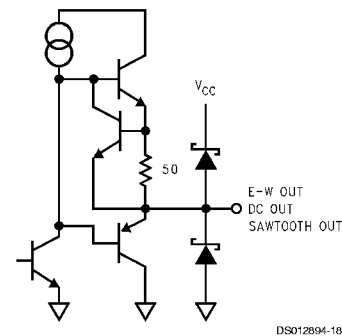

FIGURE 12.
**Pin 11. E-W OUT:** The output waveform at this pin consists of the sum of the linear sawtooth, 2nd order parabolic and 4th order parabolic waveform components. The center position of the output waveform tracks the output voltage at pin 13 (DC OUT). See *Figure 12* for the output schematic.
**Pin 13. DC OUT:** This pin outputs a variable DC voltage from 3.65V to 4.05V. The output voltage is controlled by the control voltage at pin 1 (POSITION). See *Figure 12* for the output schematic.
**Pin 15. SAWTOOTH OUT:** This pin outputs an S-corrected sawtooth waveform with the amplitude controlled by pin 2 (HEIGHT). See *Figure 12* for the output schematic.